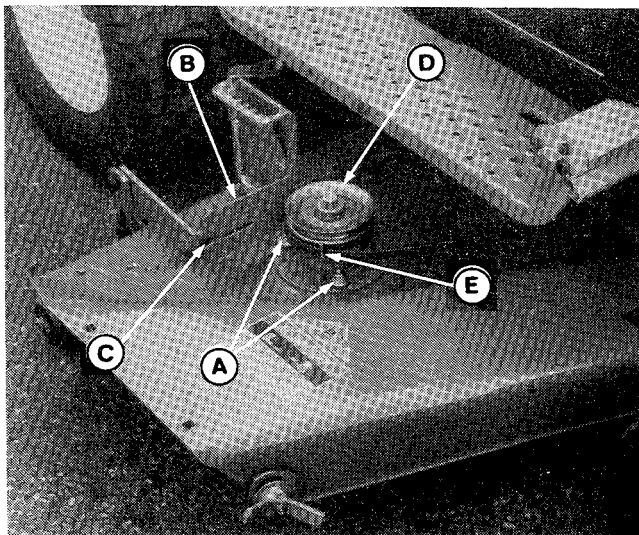
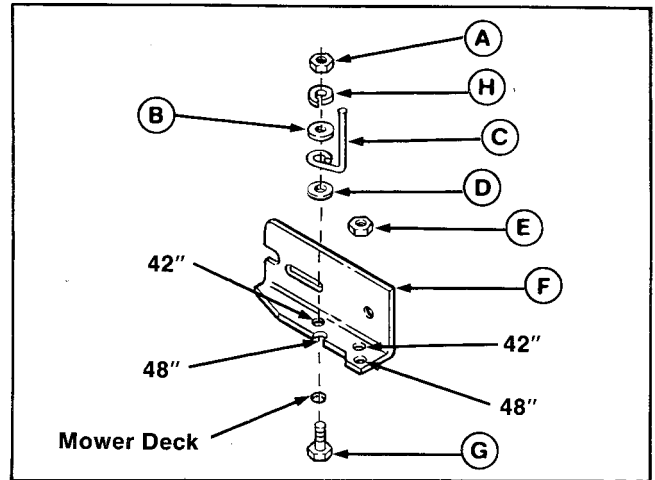
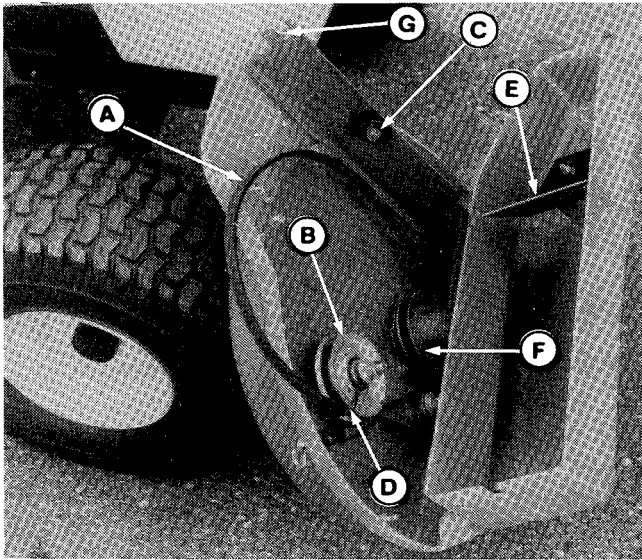
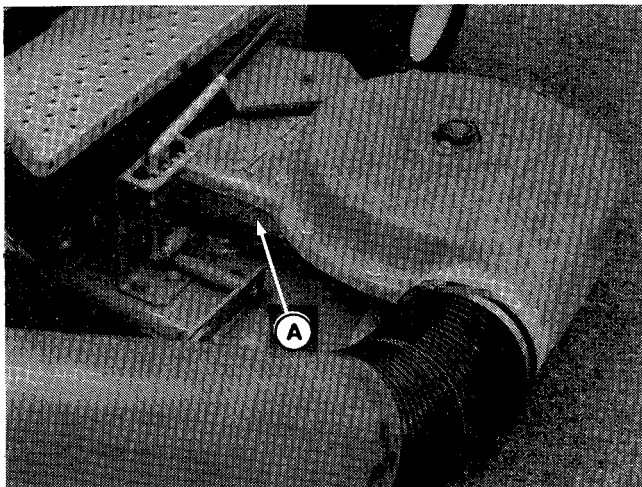

Figure 2.
Figure 3.
Figure 4.
Figure 8.
3. Remove two self-tapping screws from arbor and install two 5/16 - 18 x 1-1/4 capscrews (A, figure 2). Tighten the capscrews.
4. Install the arbor bracket (B, figure 2) as shown in figure 3. Note different holes for 42" and 48" mowers. Note belt stop (C, figure 3) is also installed. (Tighten nut that secures belt stop snug only - will be adjusted later.)
5. Install the other belt stop (E, figure 2) onto the other capscrew installed in step 3 with 5/16 washer, 5/16 lockwasher and 5/16 nut (snug).
6. Install new arbor pulley (D, figure 2) with hub down. Use new 7/16 - 14 x 2-1/4 capscrew and washers removed in step 2. Torque to 55 to 60 ft. lbs. Use wood block to prevent blade from turning.
7. Slip the mower drive belt onto the lower groove of the new pulley (D, figure 2). With the belt engaged, adjust the belt stops 1/8" from belt. Tighten the hardware.
8. The blower belt (A, figure 4) is installed for use with 42" mower. For use with 48" mower, replace belt with the other belt shipped loose. Loosen idler pulley belt stop to change belt. Tighten in original position.
9. The baffle (E, figure 4) is installed in the blower housing for use with 42" mower. For use with 48" mower, remove the baffle and install in hole marked 48".
- b. Align the notch (G, figure 4) with spacer on arbor bracket. Align spacer (C, figure 4) with notch (C, figure 2) on arbor bracket. Slide the assembly into place as shown in Figure 8, while aligning front notch between cup and wing nut (D, figure 6). Tighten wing nut.